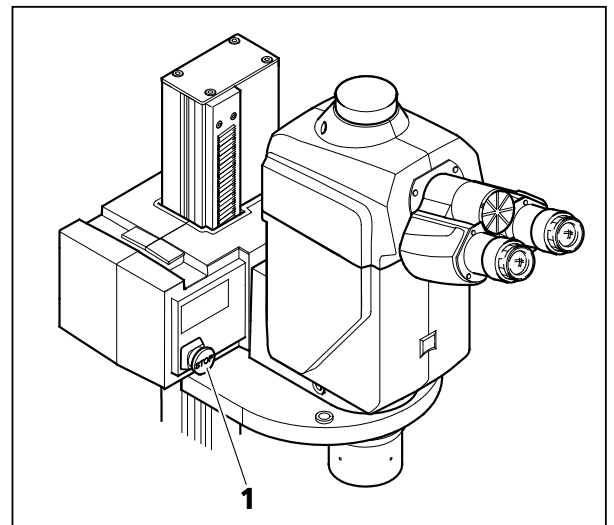

Fig. 28 STOP button
- Press the STOP button (Fig. 28/1) to switch off the focusing drive. Depending on which focusing drive is used, the STOP button is on the right- or left-hand side of the drive.
- Switch off the focusing drive with the STOP button (Fig. 28/1) if necessary (depending on the focusing drive version the STOP button is on the right- or left-hand side).